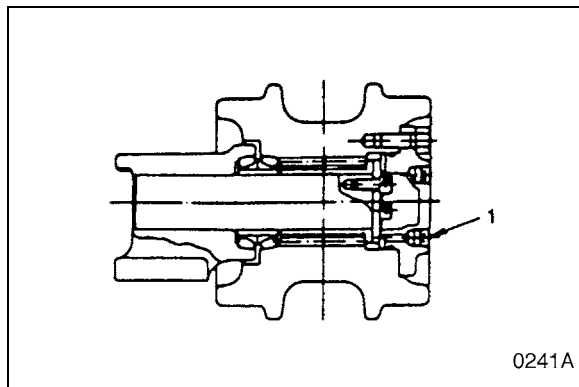

Figure 39
1. Remove the plug (1, Figure 39) from the cover and drain oil.